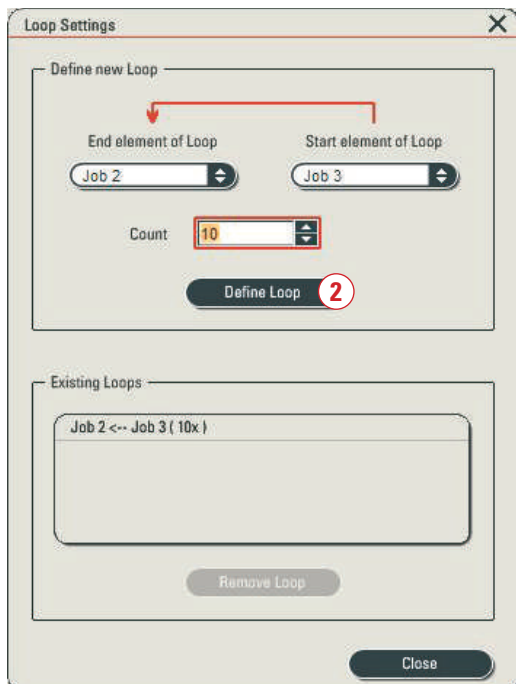

Figure 13b: The **Loop Settings** dialog has opened and a loop can be defined
By a click on the **Loop** symbol (1) (Fig.13a) the **Loop Settings** dialog opens. Start and end of a loop as well as the number of loops can be entered (Fig. 13b). A loop can be defined for one Job, between jobs as well as between a job and a pause.